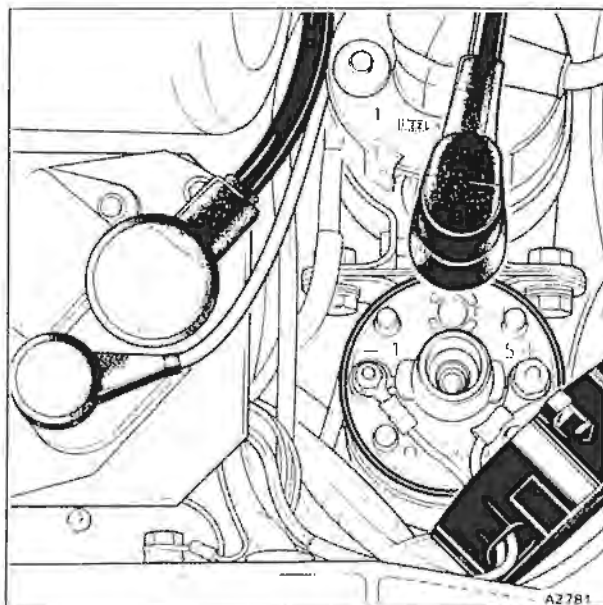

Fig. B4-58 Ignition driver modules (amplifiers) and coils
##### Ignition driver module(s) - To remove and fit (see fig. B4-58)
(see figs. B4-58 and B4-59)
3. Withdraw the high tension (HT) cable from the centre of each coil.
5. Unscrew the retaining nuts and remove the cables from the positive and negative terminals of each coil (see fig. B4-58).